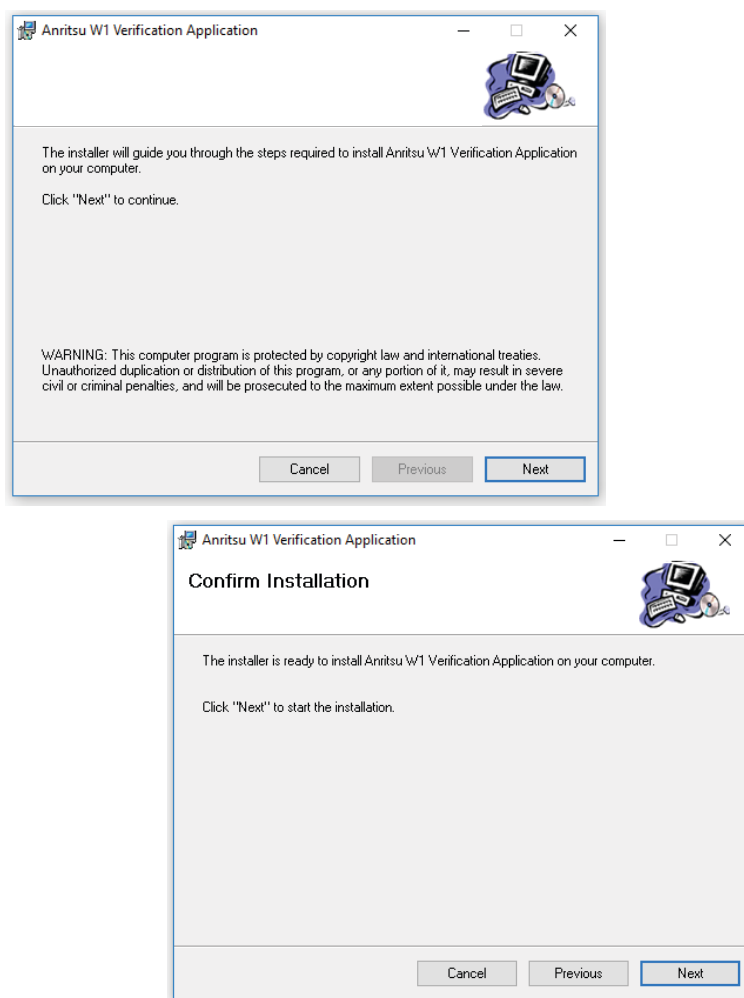

Figure 2-2. Installation Confirmation and Progress Dialog Boxes – Click Next on each
6. Click Run on the two security dialog boxes (Figure 2-2 on page 2-3).